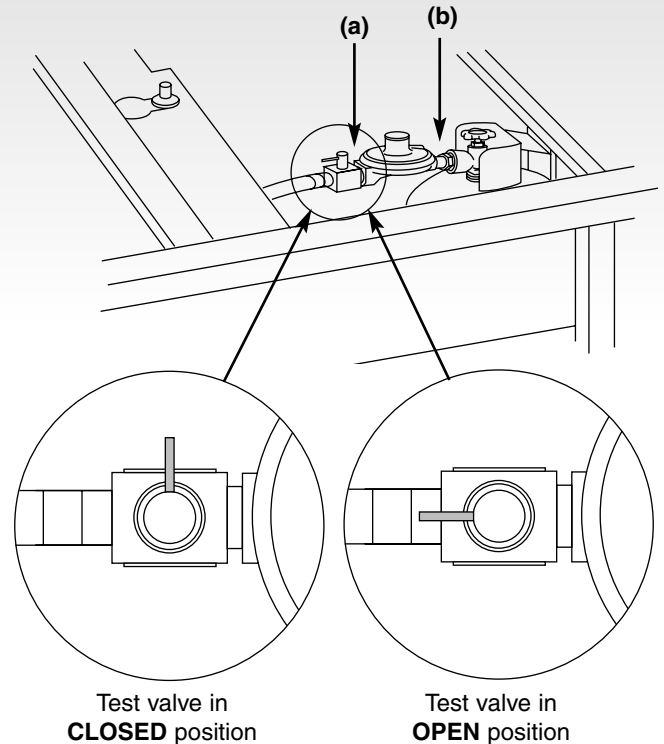

Figure 11
To perform leak checks: Turn test valve to the CLOSED position. Figure 11. Turn tank valve ON (counterclockwise). Check for leaks by wetting the connections with the soap and water solution and watching for bubbles.
Check the following connections, as shown in figure 11:
- Turn the test valve to the OPEN position (parallel to the hose). Figure 11.